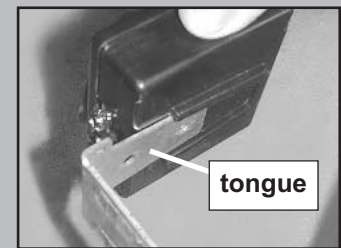

FIG. 3-3 Attaching STB's to brackets. (See directions on next page and Figure 3-4 before attaching.)
- Slide source/sensor onto tongue of bracket until it clicks into place (**Fig. 3-3**).